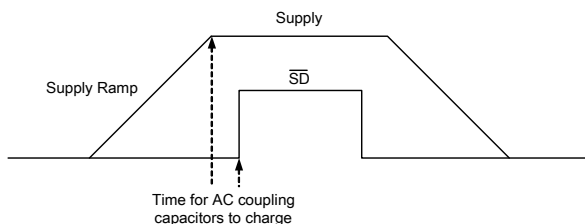

Figure 1. Power-Up Sequence
Pop-free power up is ensured by keeping the \overline{SD} (EN) (shutdown pin) low during power supply ramp up and down. The EN pin should be kept low until the input AC coupling capacitors are fully charged before asserting the EN pin high. This way proper precharge of the AC coupling is performed, and pop-free power-up is achieved. Figure 1 illustrates the preferred sequence.